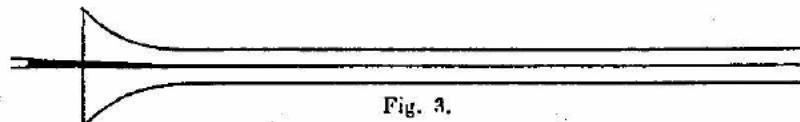

Fig. 3.
- (1) When the velocities were sufficiently low, the streak of colour extended in a beautiful straight line through the tube, Fig. 3.